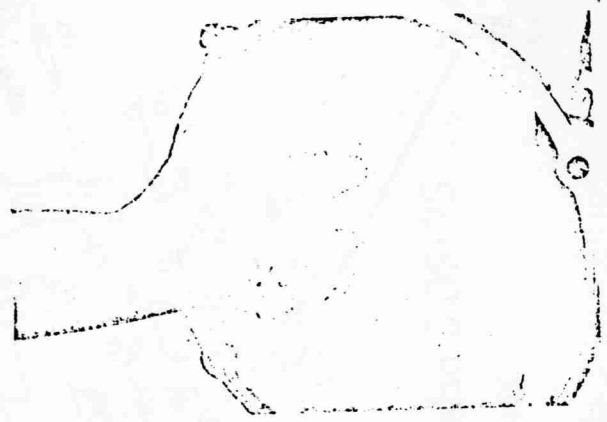

Fig. 62
4. Press shaft seal ring (233), with lip facing inside, into the guide flange. Fit guide flange (234) to housing and secure it with the 3 screws (236) and spring washers (235) (Fig. 62). Guide clutch release shaft (1006) into the bore, slide clutch release spring (1005), clutch release fork (1004) and second clutch release spring (1001) on the shaft. Drive in tension pin (one large and one small).